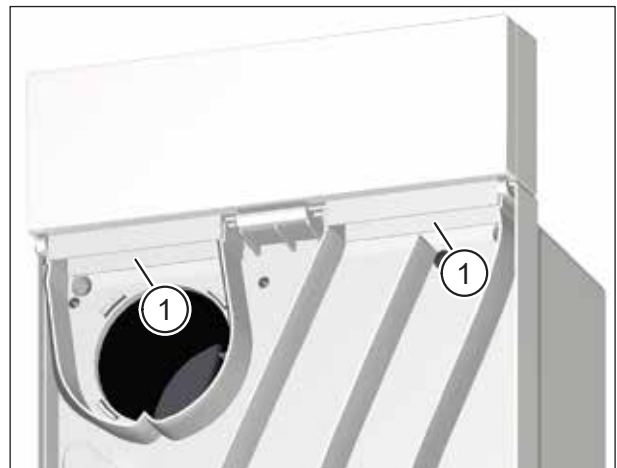

Fig. 12: Clean duct adapters (for flush-mount with ductwork connection)
- ▶ Clean the extract air and supply air openings (item 1 in Fig. 12) on the duct adapter with a damp cloth and mild soapy water.